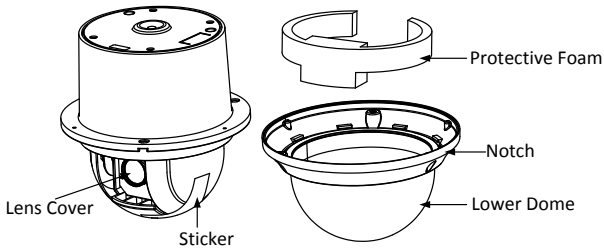

Figure 2-24 Disassemble the Speed Dome
- 3) Remove the protective lens cover, foam and sticker from the dome drive as shown in Figure 2-24.